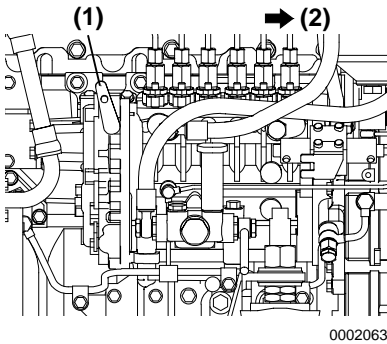

Figure 7
If for some reason you can't stop the engine by the stop switch on the panel, push the stop lever **(Figure 7, (1))** towards the front of the engine **(Figure 7, (2))** to shut down the engine in the engine room. **WARNING! SEVER HAZARD. ALWAYS keep hands, body parts and loose fitting clothes away from moving / rotating parts such as the flywheel or PTO shaft.** When pushing the stop lever to the front side, the trouble indication of the governor pops up in the display. After the engine is shut down, return the stop lever to the former position.